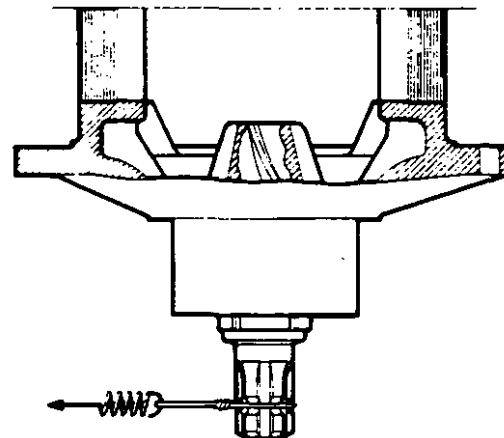

FIGURE 18 CHECKING PRE-LOAD
2. Put the other end of the string around the groove in the pinion shaft. Make two or three turns so that the string is tight on the shaft. See Figure 18.